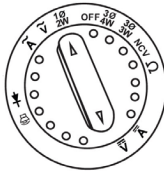

Fig. 14 Power measurement knob position
- According to the single phase Power to be measured, set the function selector switch to $\frac{10}{2W}$ position as shown in figure 14.